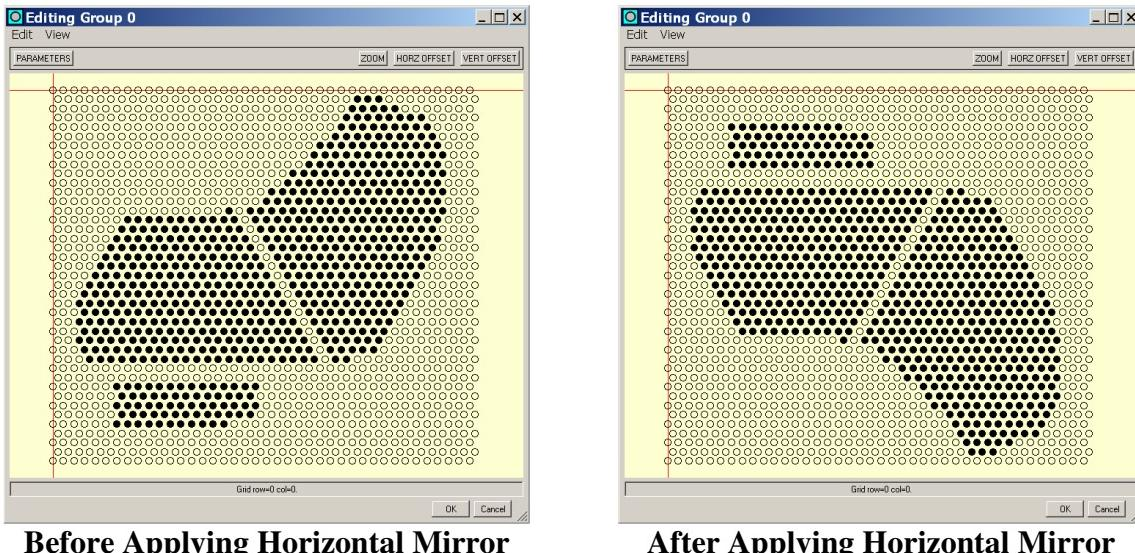

Figure 45. Using the Horizontal Mirror Function
- **View | Mirror Horizontal:** (H) Selecting **View | Mirror Horizontal** flips or *mirrors* the *enabled* tubes on the *building grid* vertically. Think of holding a mirror horizontally next to the building grid. The pattern on the grid in the mirror would appear flipped vertically. Figure 45 shows an asymmetrical pattern before and after using the **View | Mirror Horizontal** function. The origin (*x-y*) of the building grid remains the same as represented by the cross-hair cursors in Figure 45.